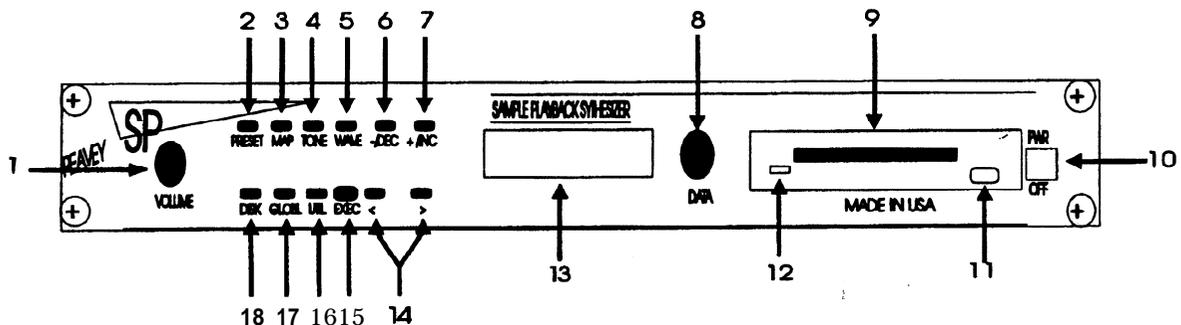

Figure 2-136. S/P Controls and Indicators
2.6.12 Backing Up the Sound Bank. To create a backup disk of the tank sound effects sound bank from a running AFIST I system, perform the following at the S/P, shown in Figure 2-136: